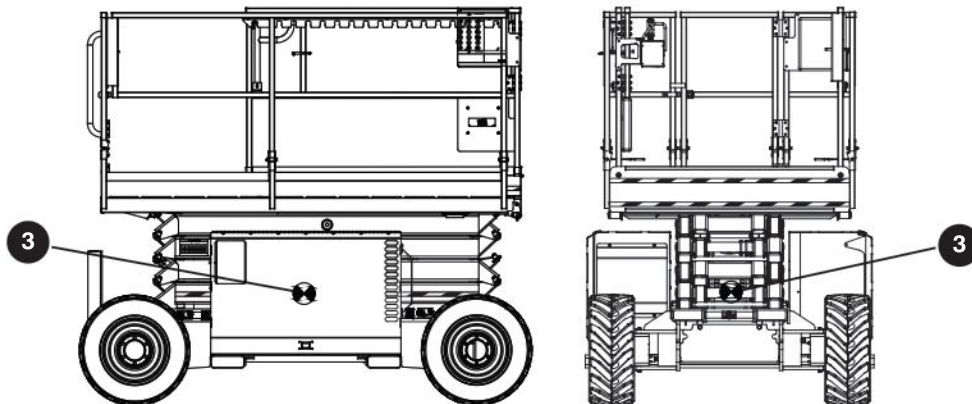

Figure 06 MEWP Center of Gravity
For the weight of the MEWP, refer to section 7.3. Horizontally, the **center of gravity** ③ is approximately in the middle of the MEWP, front to back and side to side. Refer to Figure 06. Vertically, the center of gravity is approximately a small distance above the chassis.